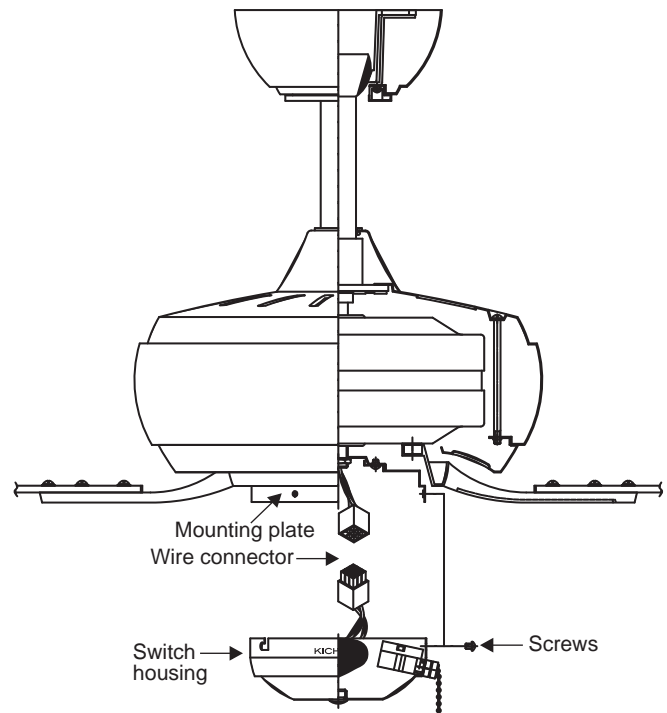

Fig. 18
2. Carefully push all wires back into the switch housing, then install the switch housing onto the mounting plate with 3 screws provided. Be sure to tighten all screws. (Fig. 18)